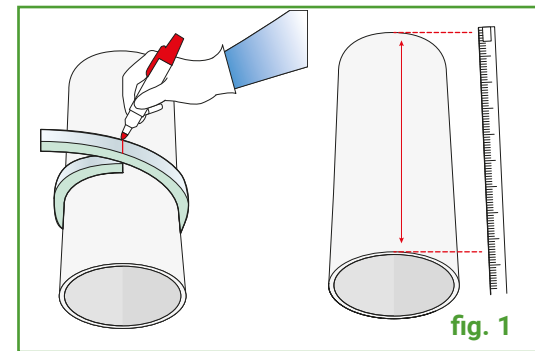

fig. 1
- Measure the circumference of the duct with a Trocellen strip of known thickness, wrapping it around the duct without stretching. Mark it with a marker where the two edges overlap (**fig. 1**)